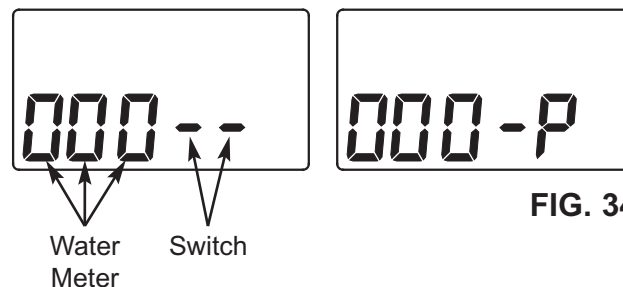

FIG. 34
3. The letter "P" and a dash (or dashes) indicate POSITION switch operation (See Figure 34). If the